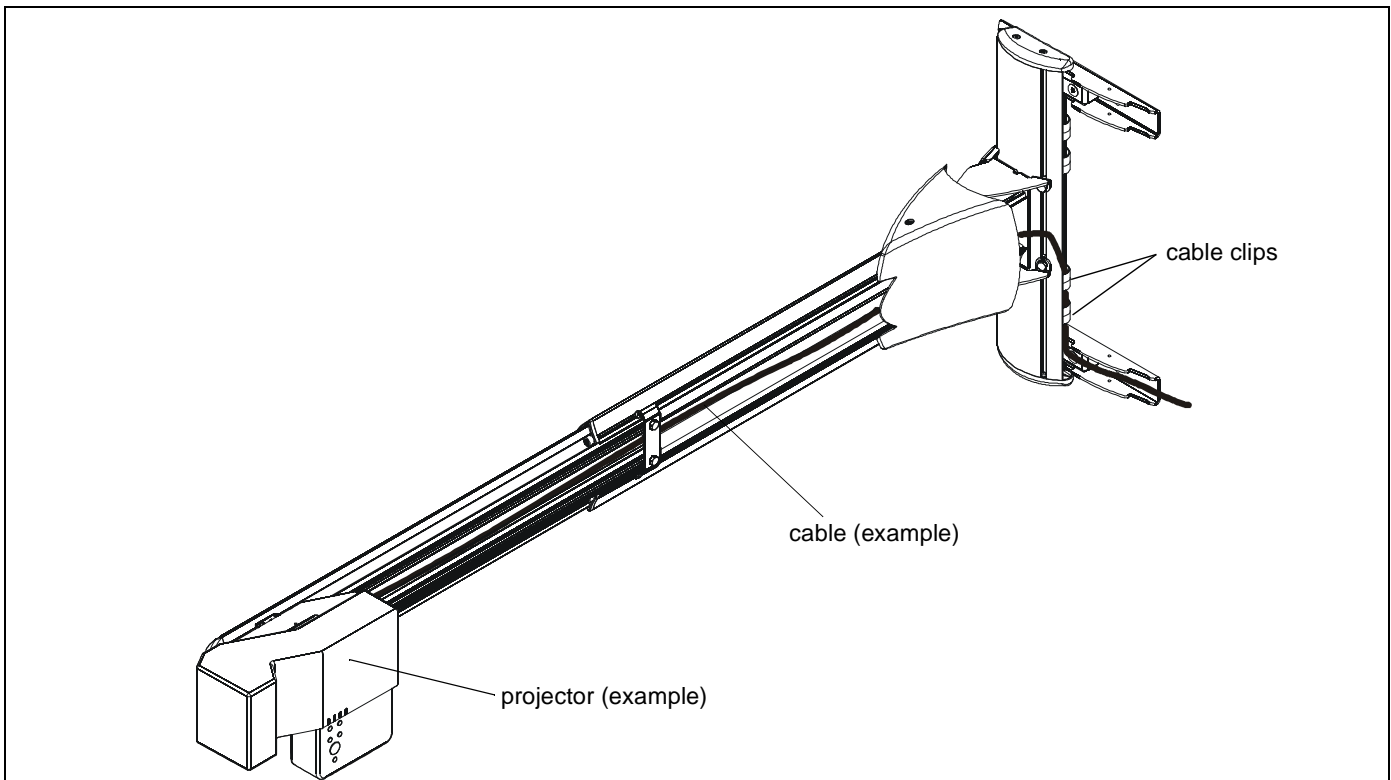

Figure 25
7. Route cables through cover mount, projector arm tunnel and into projector. (See Figure 25)